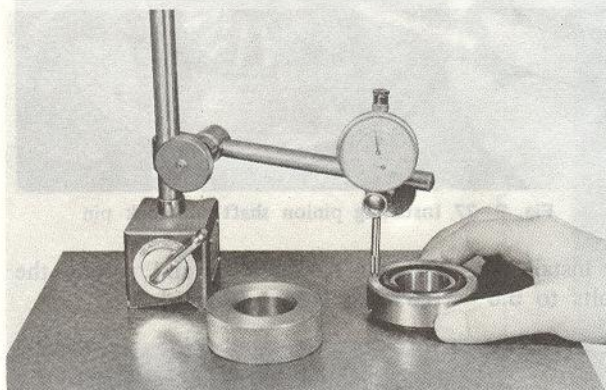

Fig. 9-21 Measuring bearing height
7. Place the bearing model and the rear pinion bearing on the surface plate and compare their heights as shown in Fig. 9-21.